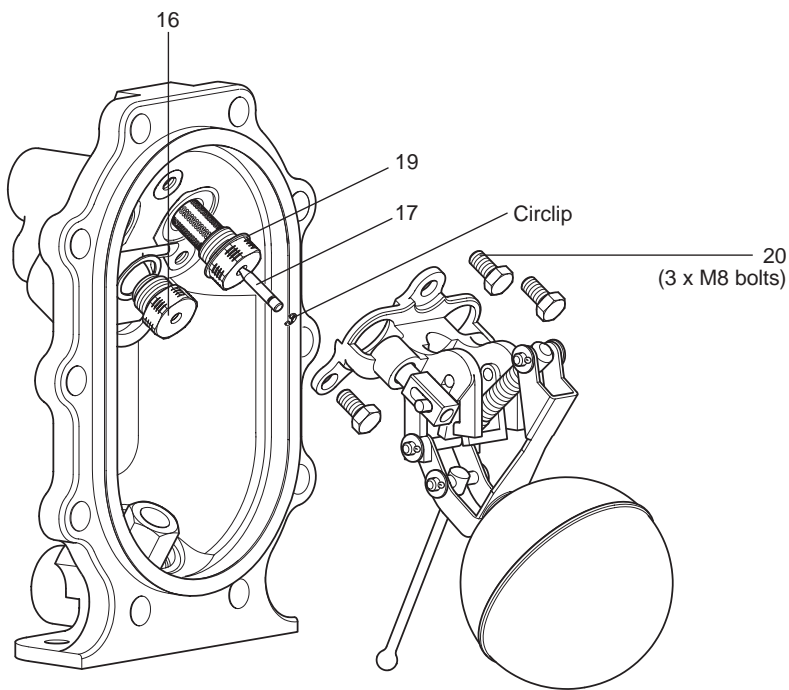
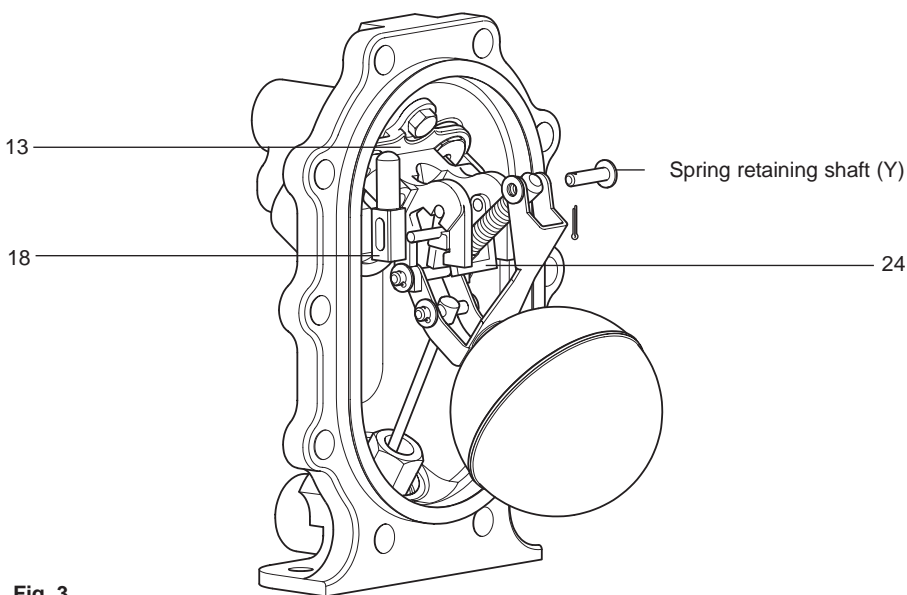

Fig. 2
Fig. 3
3. Carefully remove the circlip from the end of the steam inlet valve (item 17).
4. Remove the three M8 bolts (items 20) using the 13 mm A/F socket.
9. Insert the replacement steam valve assembly (items 16 and 17) according to Fig. 2.
10. Place a new metal gasket (item 19) onto the threads of the seat before tightening into the cover.
15. To remove the exhaust valve (item 18), remove split pins, washers, and shaft (Y) from the top spring pivot point. (See Fig. 3).
17. Draw the actuator arm downwards within its slots until the whole spring and actuator arm assembly with the exhaust valve comes free. It may be necessary to slide the exhaust valve backwards against its internal spring to free it from the pump bracket guide (item 13).
18. Align the slot in the exhaust valve (item 18) with the tang of the actuator arm (item 24) (See Fig. 3).